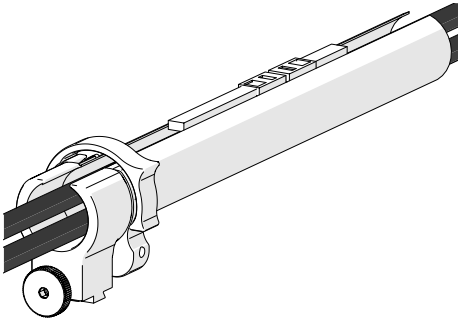

Fig. 75 - Zip opposite end
3. Once the cable is placed the entire length of the tube, bring the zipper from the tube's opposite end, meeting at any point in the middle (Fig. 75).